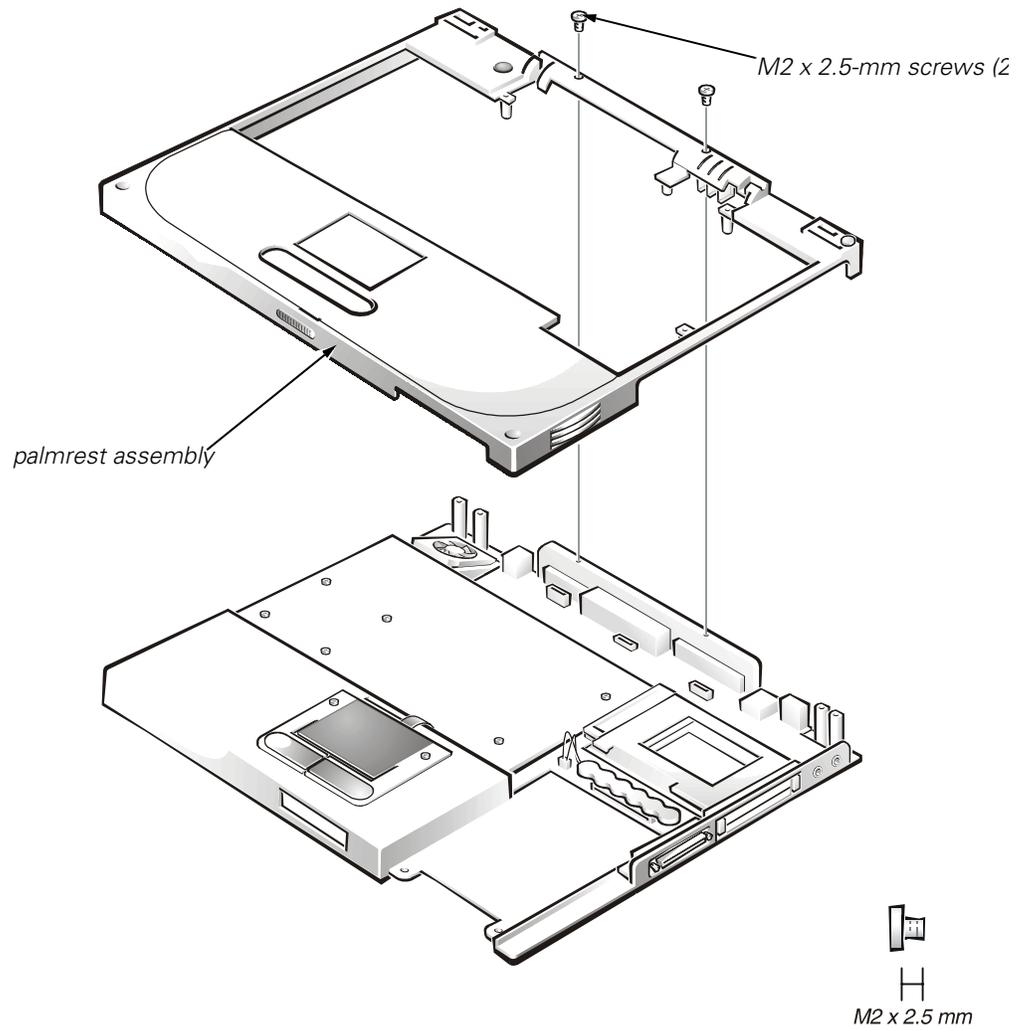

Figure 15. Palmrest Assembly Removal
3. Remove the two M2 x 2.5-mm screws located at the top of the palmrest assembly (see Figure 15).
10. Carefully remove the palmrest assembly from the bottom assembly (see Figure 15).
1. Remove the palmrest assembly (see Figure 15).